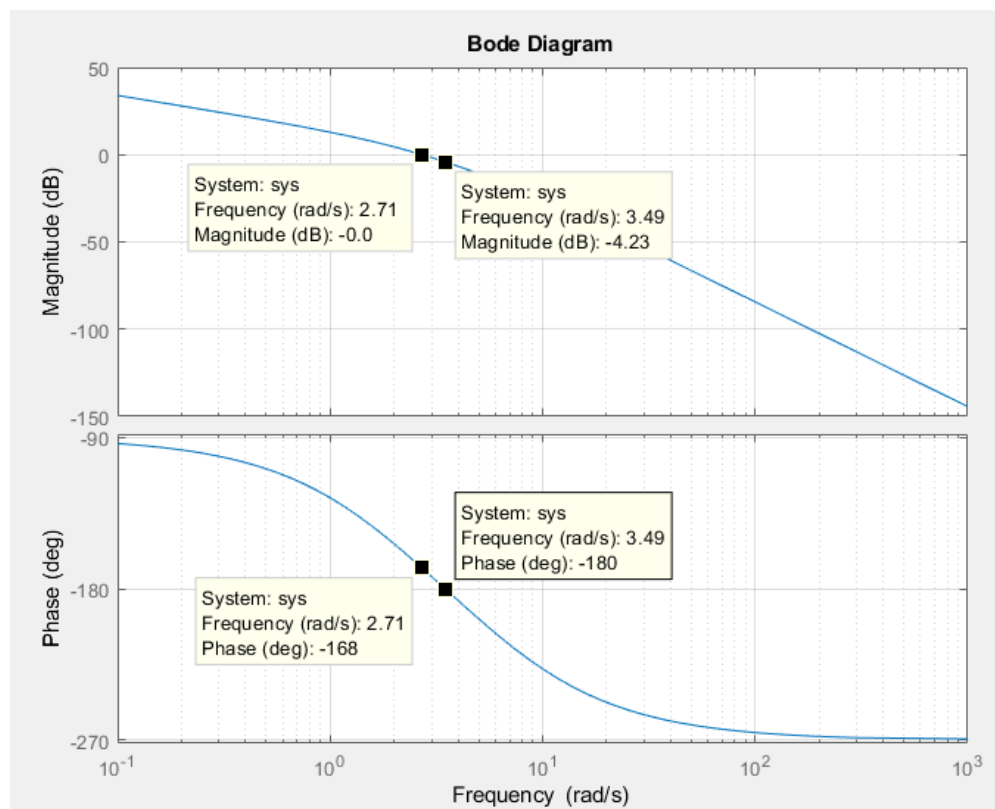

Figure Q2.2
- (c) Using the method explained in part (b), determine the stability of the system from its Bode plot shown in figure Q2.2.